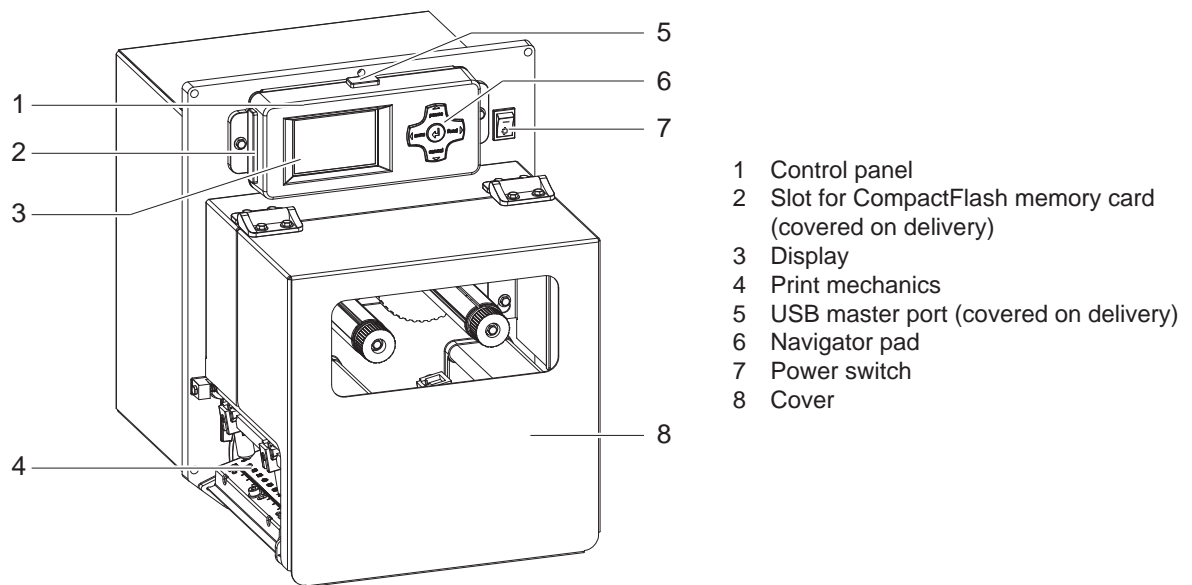

Fig. 2 Overview
- ▶ Switch the print module on at the power switch (7 / fig. 2).